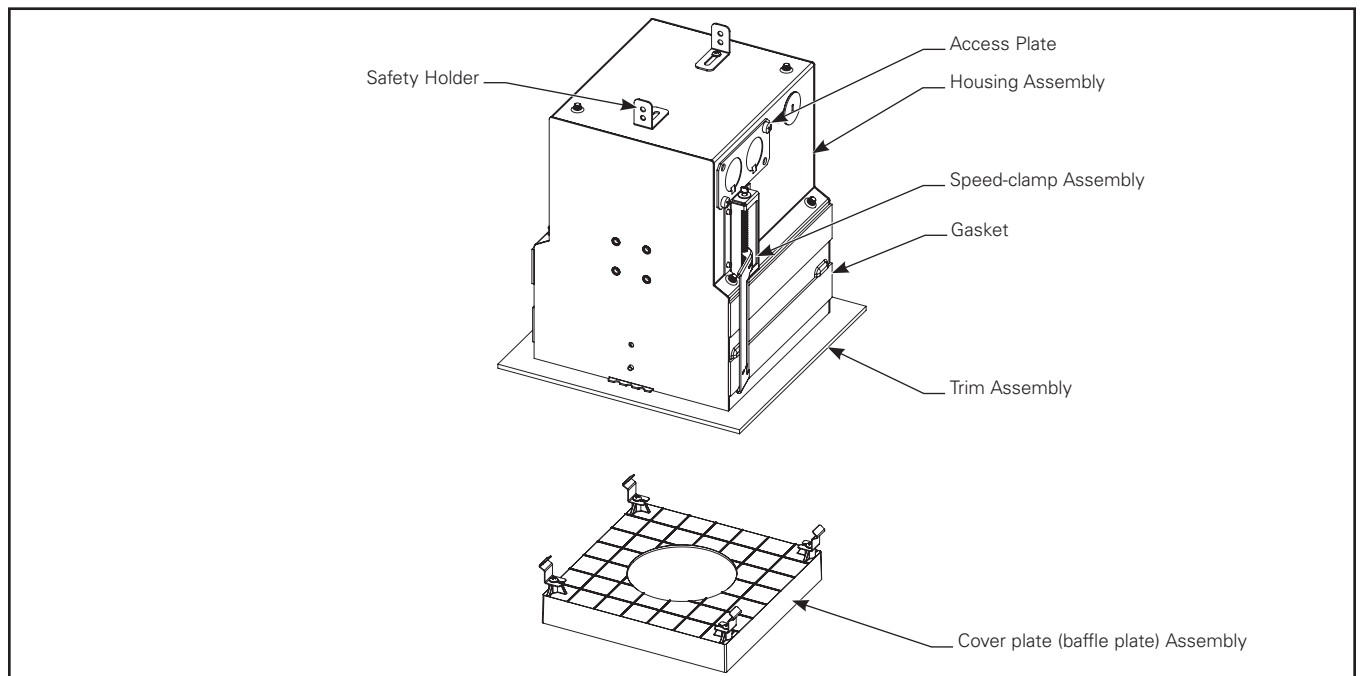

Figure 2.1.
1. Unpack HCM multi-head remodel luminaire and ensure that all parts are included. (Figure 2.1)